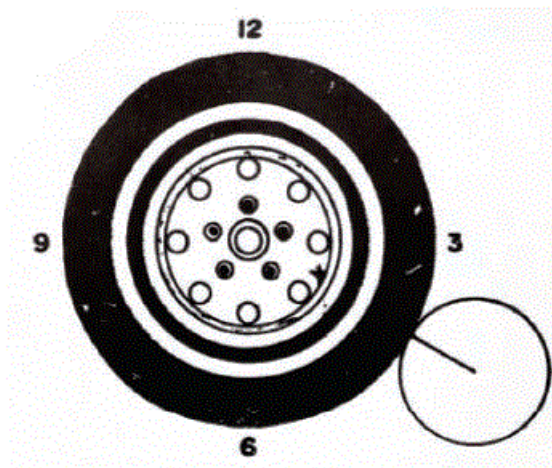

FIGURE 4
**STEP 8:** Attach 1- 3 ozs. of weight on the outside of the tire at the location of the spinning bell. SEE FIGURE 4.